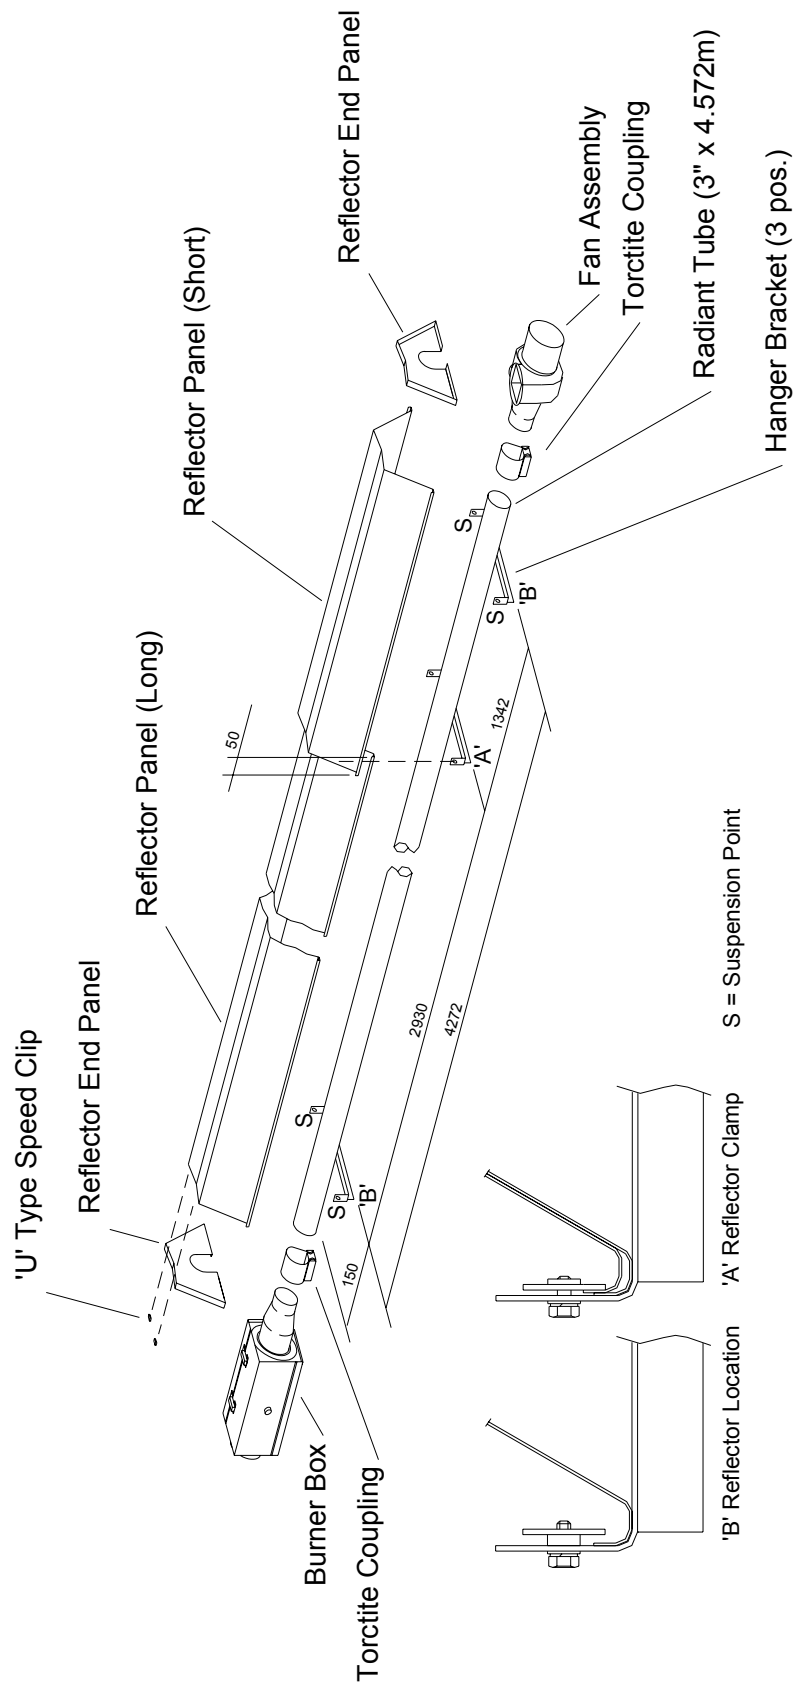

Fig. 23
6.5.2 Place the Radiant Tube on trestles, providing 150mm minimum clearance above the floor and assemble the three Hanger Brackets to the Radiant tube using one U bolt per bracket (fastening pack) and position along the Radiant Tubes as shown in Fig. 23. Ensure that the welded seam of the tube is in contact with the Hanger Bracket, i.e. facing away from the reflector. Tighten the nuts sufficiently to retain the Hanger Brackets. Do not overtighten.
6.5.5 Place the two Reflector Panels onto the Hanger Brackets and position to provide a 50mm overlap, arranged equally about the inner Hanger Bracket (see Fig 23.). Clamp the two Reflector Panels to the inner Hanger Bracket using two Retainers and M6 setscrews and washers (fastening pack). Screw the remaining (4) Retainers to the two outer Hanger Brackets to provide location for the Reflector Panel ends as shown in Fig. 23.
6.5.6 Position one Reflector End Panel over the Radiant Tube and into one end of the Reflector Panels, with the End Panel flange flush with the end of the Reflector Panel. Secure the Reflector End Panel to the Reflector Panel by use of six 'U' type speed clips provided (fastening pack): 2 clips per facet of Reflector Panel, as shown in Fig 23.
6.5.7 The appliance should now be raised and suspended from previously fixed chains or drop rods as detailed in Section 5.3.1., at suspension points indicated in Fig. 23. Rope or webbing slings should be used when lifting from above. If using a forklift to position the appliance, ensure that it is balanced on the forks prior to lifting.